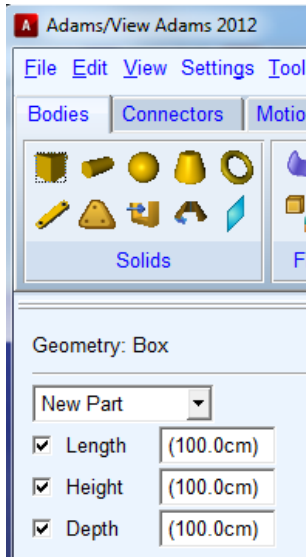

Figure 2.3
- In the “Bodies”-menu select “Rigid body box” (first row, first column). Insert “Length: 100cm”, “Height: 100cm”, “Depth: 100cm”. Mark “Length”, “Height” and “Depth” using “✓”, see Figure 2.3 below.